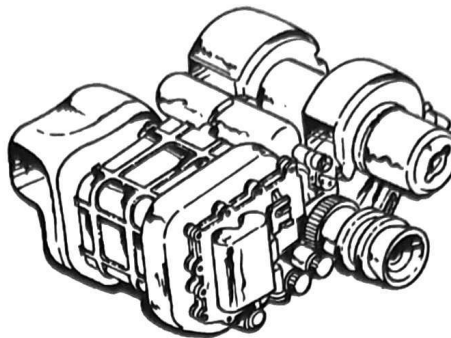

Figure 1-5. Night tracker.
b. **Night Tracker (Night Vision Sight, Tracker, Infrared, AN/TAS-5).** The night tracker is used when light levels fall below that which is required for the day tracker (Figure 1-5).